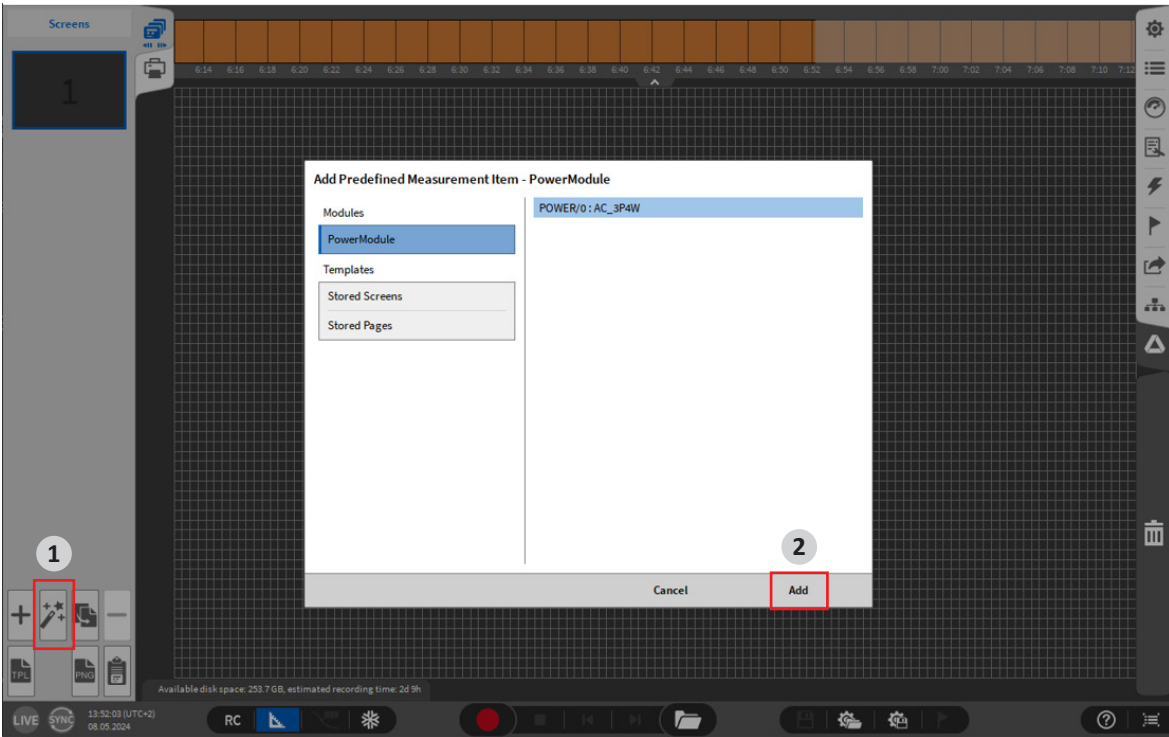

Fig. 25: Place the Power instrument with a template (1)
1. Open the screens overview and click on the magic wand symbol, see ① in Fig. 25.
- Choose the desired Power Group and press “add”, see ② in Fig. 25.